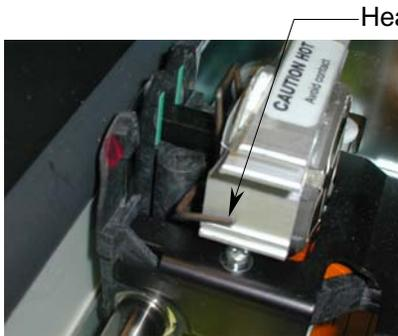

Figure 3 Left side of Clip
a) Remove the Printhead Heatsink Clip from the printhead heatsink by slipping both end of the clip over the heatsink then pulling out the clip for the heatsink (see figures 3, 4, & 5).